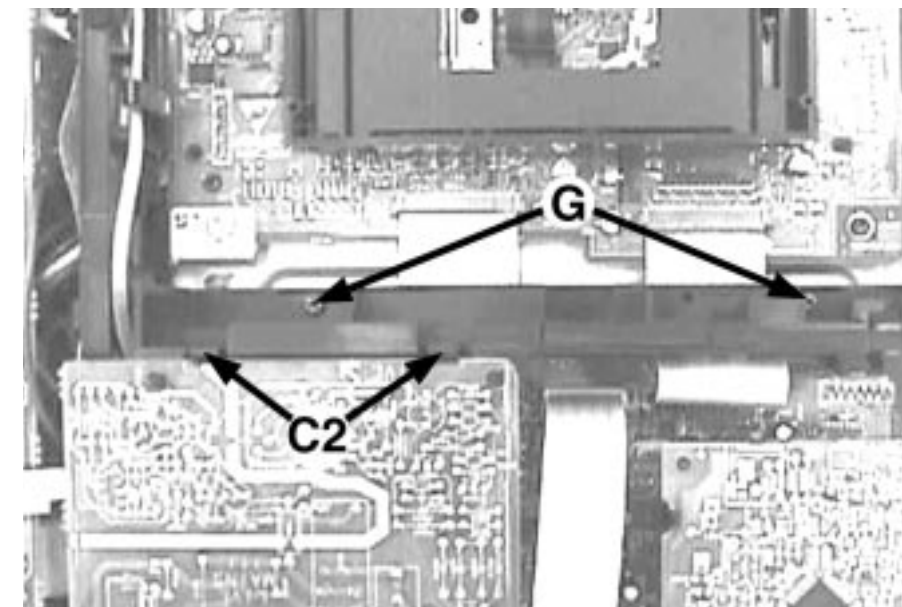

Figure 4
- 4) Remove 1 screw C (see Figure 2) and uncatch 2 catches C2 (see Figure 4) to loosen the Main Board (pos 1104-B).
- 5) Remove 2 screws G (see Figure 4) to loosen the Bracket AV PCB (pos 255).